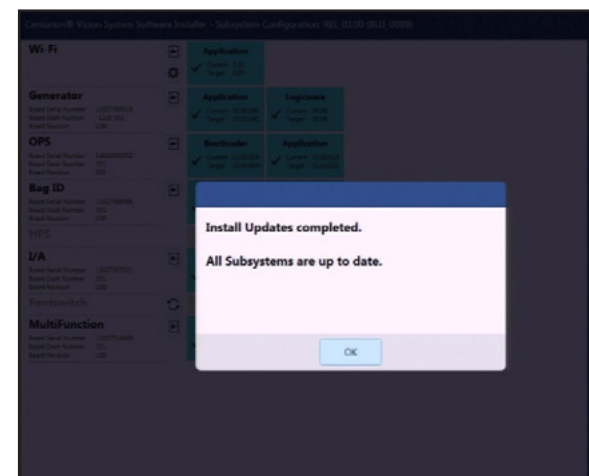

Figure 4-15 Install Updates Completed Dialog
- 2.4.7 Select *OK* at the *Install Updates* completed dialog (shown in Figure 4-15).